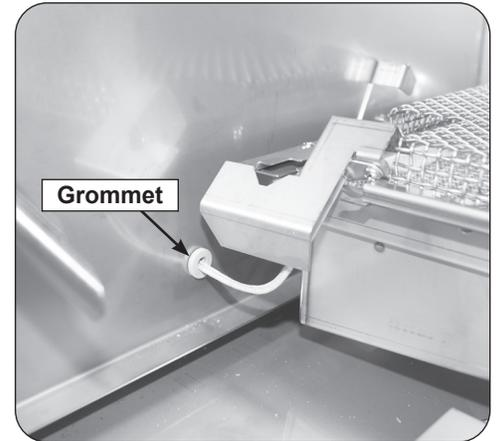

Fig. 5-2 Install grommet
6. Install the supplied grommet into the forward firewall opening as shown in Fig. 5-2.